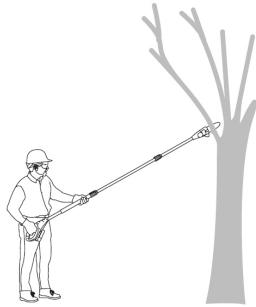

Fig. 21a
1. Always hold the product firmly with both hands on gripping surface and handle grip (A17). Never operate this product using only one hand. (See Fig. 21a)